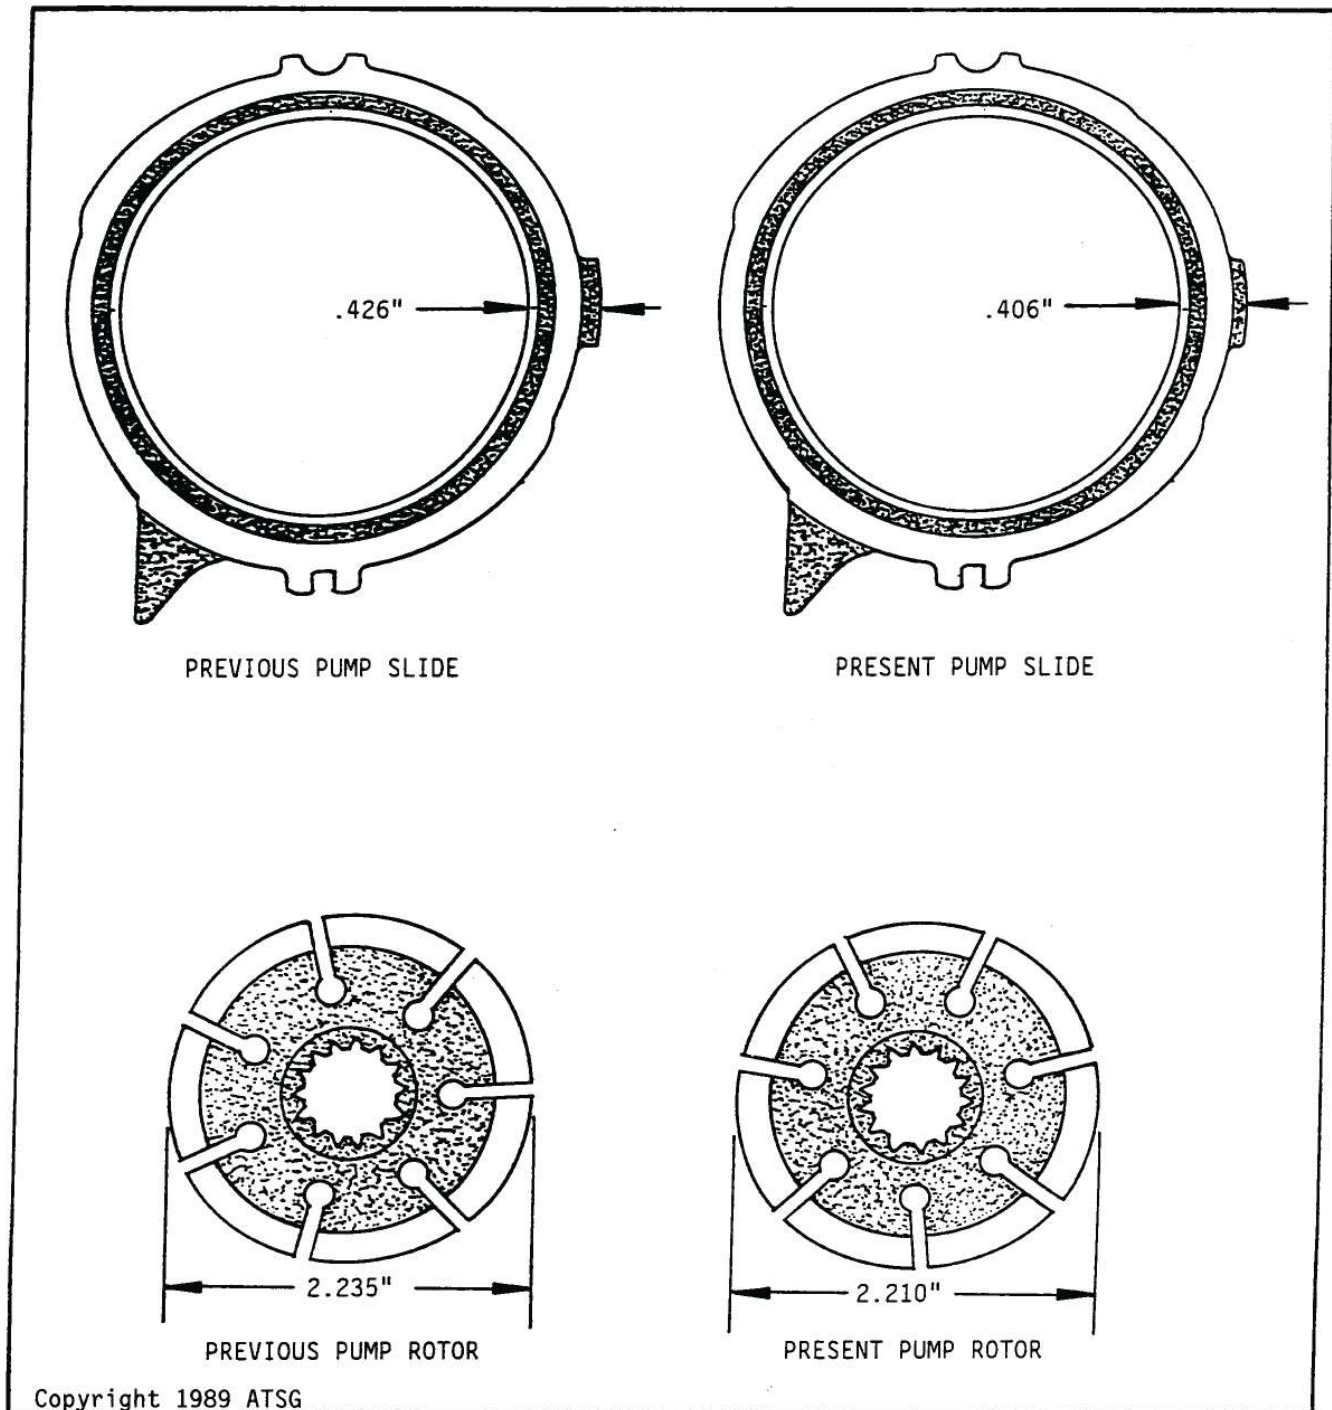

Figure 77
CHANGE: Beginning in late 1985, the dimensions of the pump rotor and pump slide changed (See Figure 77).
- (1) PUMP ROTOR - The outside diameter of the rotor was made smaller. The previous rotor O.D. was 2.235", and the present rotor O.D. is 2.210". (See Figure 77).
- (2) PUMP SLIDE - The height of the pump slide stop was made shorter. The previous pump slide stop measures .426", and the present pump slide stop measures .406" (See Figure 77).